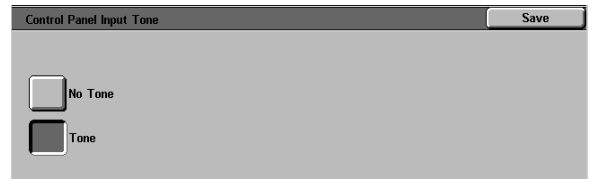

Figure 46: Control Panel Input Tone screen
- For the Control Panel Input Tone (Figure 46), touch **No Tone** or **Tone**.